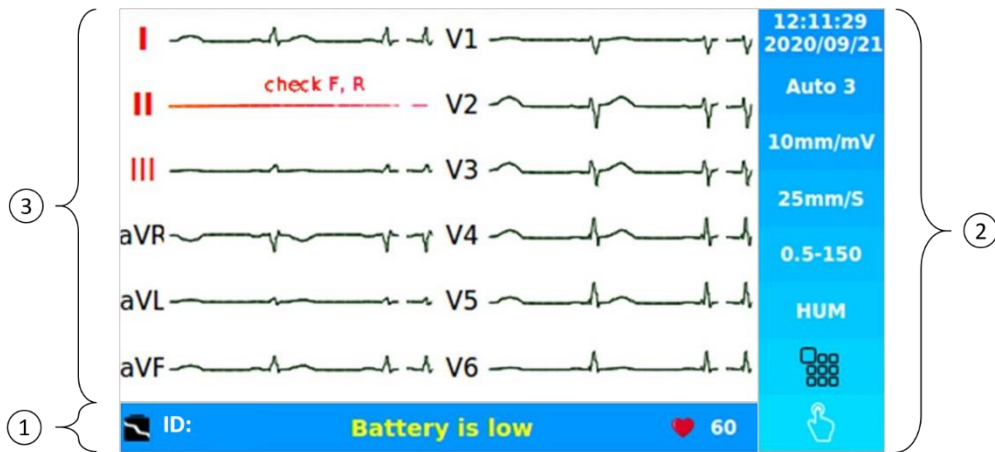

Figure 1-2 Display screen
- Bottom Ribbon (figure 1-2-①),
- Touch keys area (figure 1-2-②),
- Waveform area and error messages area (figure 1-2-③).
DENA 650 constantly checks the connection of the electrodes and, if it detects that the electrodes are not properly connected, displays a red message in the waveform area (such as lead II in Figure 1-2-③).